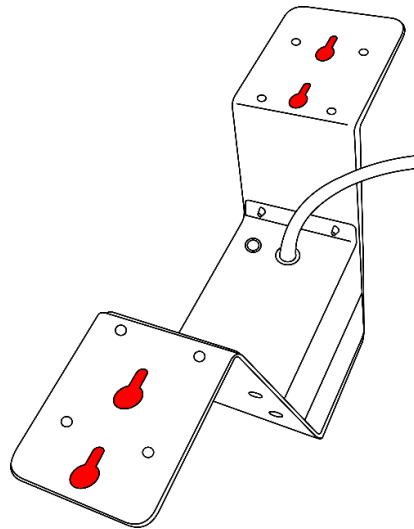

Fig. 04
02) Hold the mounting bracket (01) onto the location where the device is to be installed.
03) Mark the holes with a pen or a suitable tool (see Fig. 04).